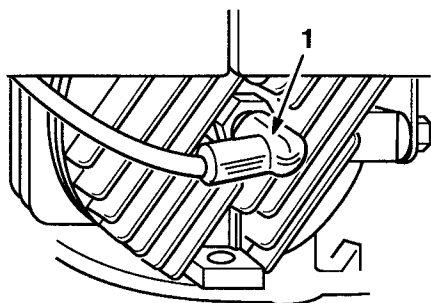

Figure 37
1. Stop engine and disconnect spark plug wire (Fig. 37) before installing or removing grass chute.
1. Stop engine and disconnect spark plug wire (Fig. 37) before installing or removing mulch plate.